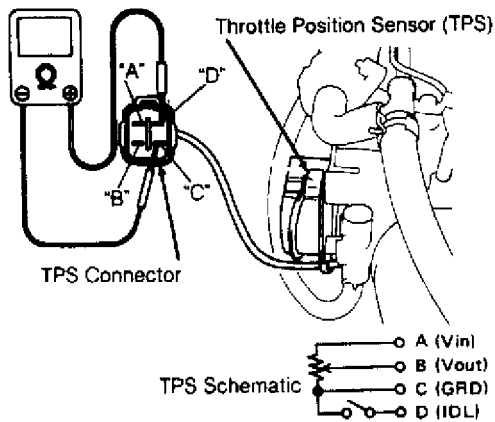

Fig. 12: Throttle Position Sensor (TPS) Terminal ID (Swift DOHC)
Unplug TPS connector. Using ohmmeter, check resistance with selected shim thickness gauges between throttle stop screw and throttle lever. See Figs. 12 and 13. See THROTTLE POSITION SENSOR (TPS) RESISTANCE table. If TPS cannot be adjusted to obtain correct values at terminals "C" and "D", replace TPS.
2) Connect ohmmeter between terminals "C" and "D". See Fig. 12. Turn TPS fully clockwise, and then slowly rotate TPS counterclockwise to locate position at which ohmmeter reading changes from zero to infinity. Holding TPS at that position, tighten mounting screws snug.